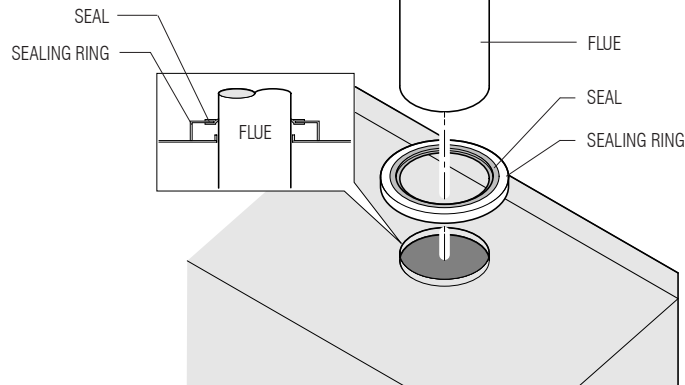

Fig. 5-3d External Boiler Flue Assembly
18. Fit flue as shown in fig. 5-3d. The outlet can be orientated in any direction except directly to the wall. Water entering the flue is not a problem as this will drain to the condensate drain.
Fit flue as shown in fig. 5-3d. The outlet can be orientated in any direction except directly to the wall. Water entering the flue is not a problem as this will drain to the condensate drain.